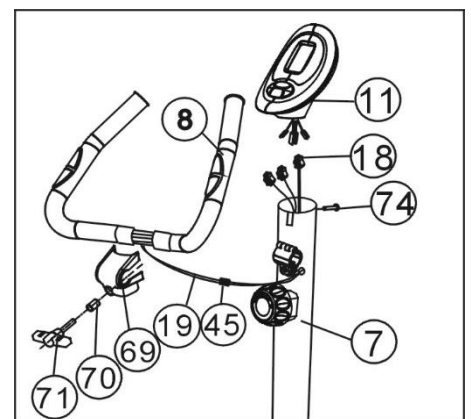

Figure 4
a. Insert the Tension control wires (19) through into the hole of the Handlebar support (7) and then pull them out from the top hole of Handlebar support (7). Attach the Handlebar (8) to the Handlebar locator(A) of the Handlebar post(7) with the Handlebar cover(69), then insert the Tension control wires(19) into the hole of the Handlebar support(7) with the Pole plug(70), and put the Spacer(70) on the T-knob(71). Adjust the handlebar to the proper position, and lock with the T-knob(71) tightly.
b. Connect the Computer wire (18) and the Pulse wires (19) and sensor wire, insert the surplus wire into the Handlebar (7). Then insert the Computer (11) to the top of Handlebar support (7), make sure the computer is inserted to the handlebar support firmly. Then tighten it with M5*10 cross-head screw(74) (Refer figure 4)